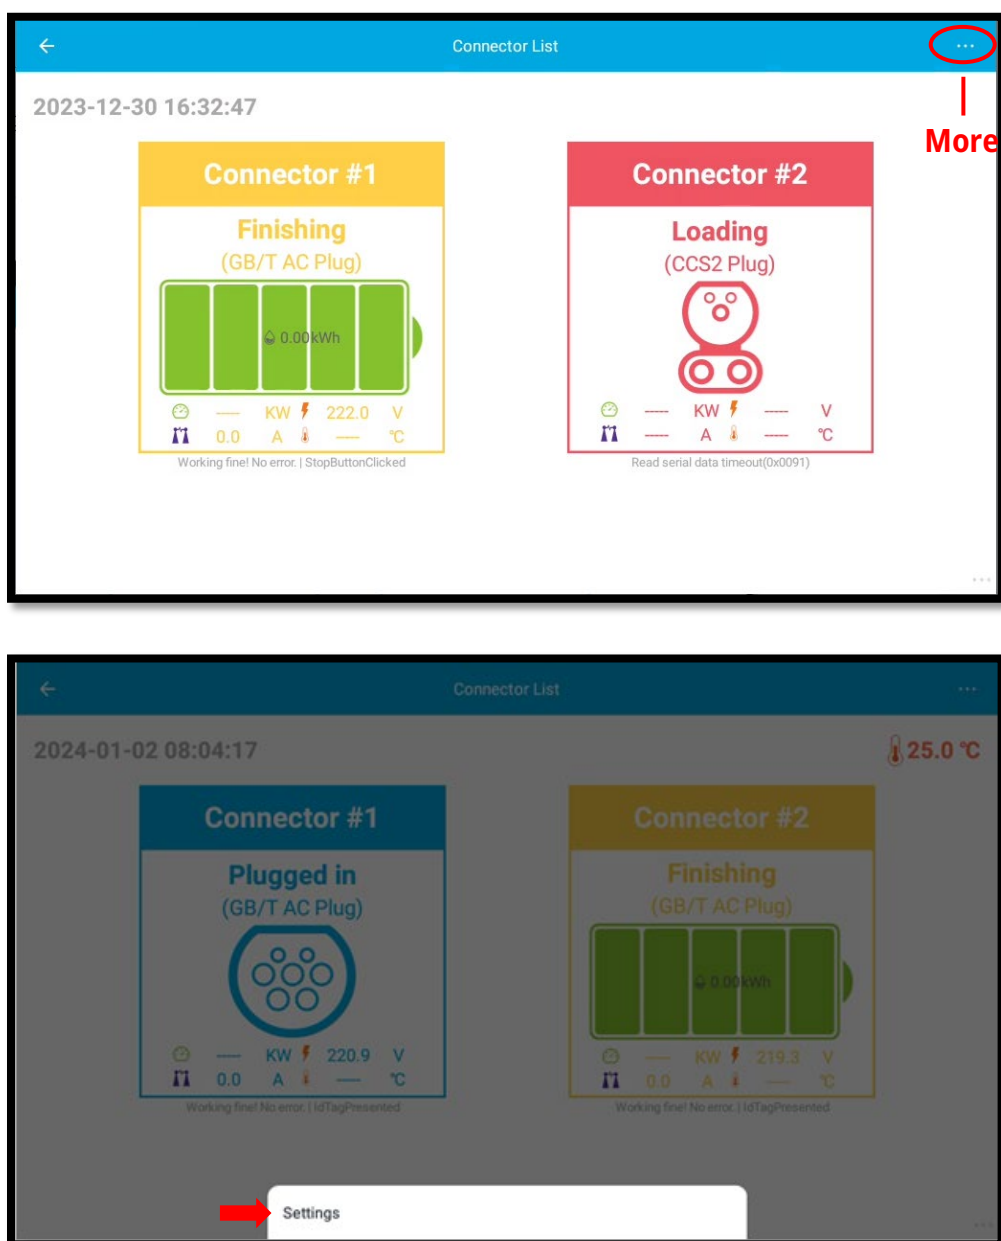

Figure 3.2 Accessing Settings Menu
- 1) From the home page (connector list page), click **More** (the **three dots icon** in the **top right corner**), then click on **Settings** to open the settings login page (Figure 3.2).